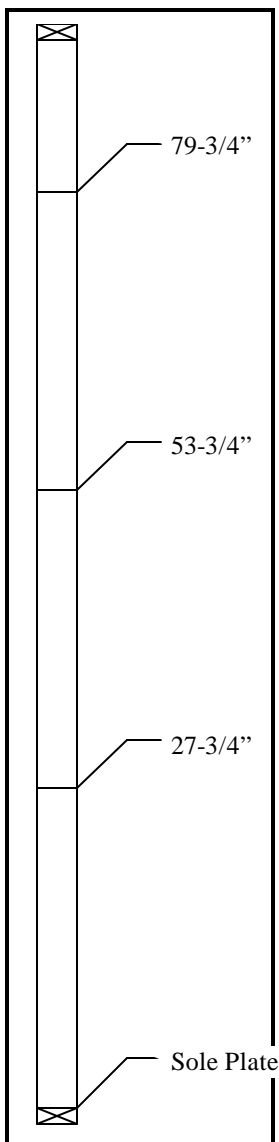

Figure 1
Step 1: Use a tape measure and measure up from the top of the sole plate of the wall. Mark each stud with lines at: 27-3/4", 53-3/4", and 79-3/4" (fig. 1 at left).